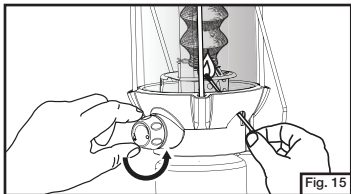

Fig. 15
- Push lighted match through lighting hole, hold near mantle and open fuel valve fully. (Fig. 15)